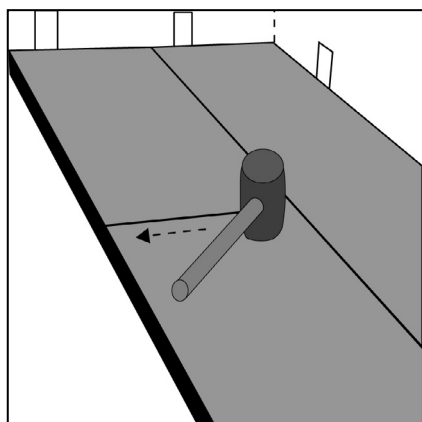

Figure 48 Ensure all joints are fully engaged on the short sides
- > Using the rubber mallet gently tap down the short joints along the short end just installed (Fig 48). If they don't re apply pressure until this is achieved.